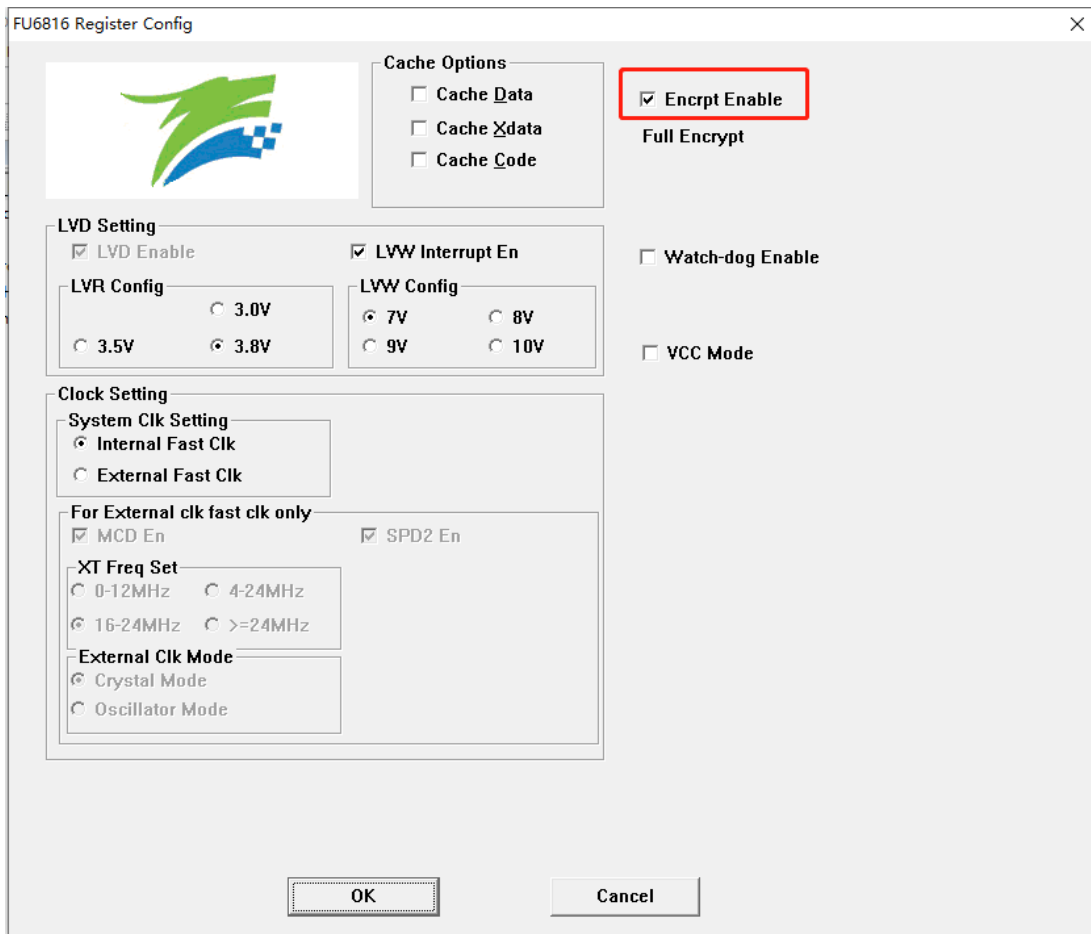

Figure 36-2 Full Code Protection Mode
2. Select the options as shown in Figure 36-2, and click OK. Then compile the project and download it. Get the BIN file and program it to Flash.